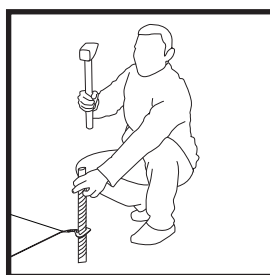

Fig. 6
8. Fasten the rope to the anchor number 1. Stretch the rope with the anchor number 1 and put it vertically to the ground to define the place of the first angle. Make sure the rope is taut then drive the anchor into the ground (Fig. 6). When setting up a tent with 2 or more poles, the assembly point number 1 must be in a straight line with the poles connecting line.